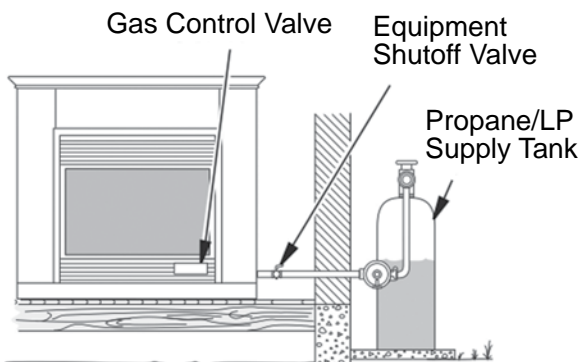

Fig. 18.1
3. Check all joints from gas meter to equipment shutoff valve (See Fig. 18.1 or 18.2). Apply mixture of liquid soap and water to gas joints. If bubbles form, there may be a leak.
4. Check all joints from equipment shutoff valve to control valve (See Fig. 18.1 or 18.2). Apply mixture of liquid soap and water to gas joints. If bubbles form, there may be a leak.